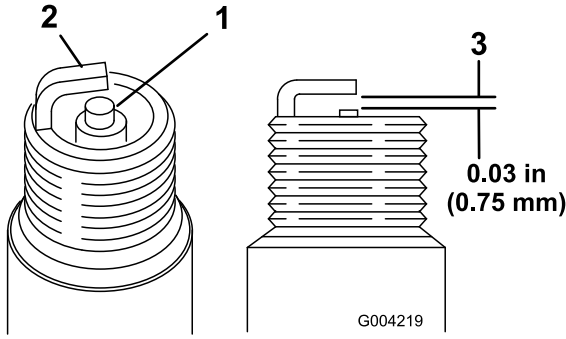

Figure 48
- Look at the center of both spark plugs (Figure 48). If you see light brown or gray on the insulator, the engine is operating properly. A black coating on the insulator usually means the air cleaner is dirty.
2. Check the gap between the center and side electrodes (Figure 48).
3. Bend the side electrode (Figure 48) if the gap is not correct.